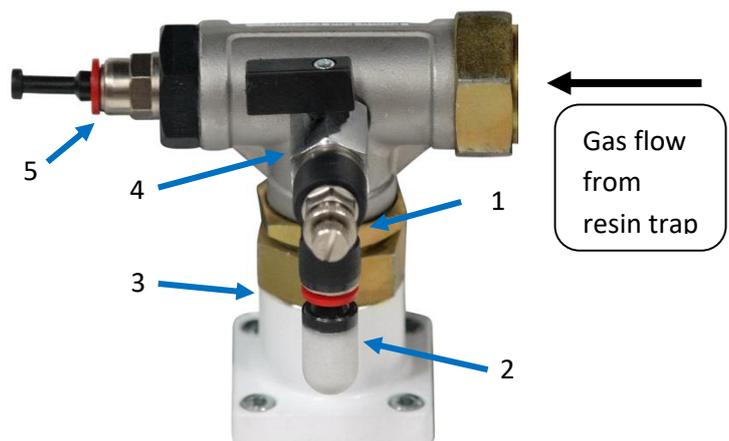
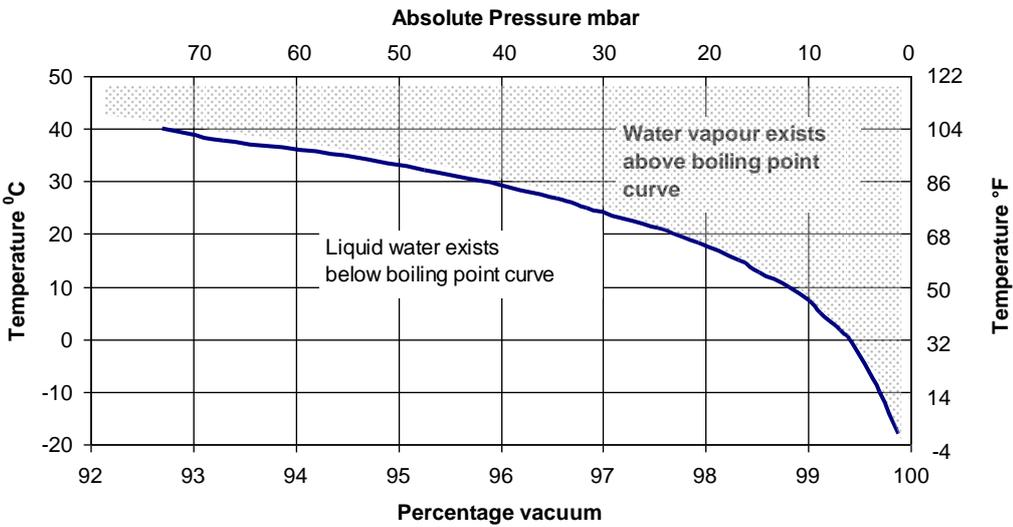

Figure 1
Figure 2, vapour pressure curve for water
The EVA valve is a small, manually operated valve assembly fitted to a T above the vacuum connection to a VSV-20 vacuum pump. The assembly is illustrated in Figure 1 and its components are:
In all cases where the laminate (or whatever is being evacuated) is at an elevated temperature, recognise that vapour generation will be increased and evacuation will slow down. In severe cases, the evolution of vapour may be more than the vacuum pump can dispose of without oil contamination. If the pump oil should begin to discolour quickly, adjust the EVA valve so that the pump's end pressure (with the resin trap valve closed) is raised to approximately the expected vapour pressure at the laminate (please refer to the water vapour pressure chart in Figure 2, or to the solvent vapour pressure chart, if the resin supplier can provide this information). Reopen the resin trap valve and pump until the actual pressure drops to the end pressure you set the EVA valve to. You can now reduce the EVA valve pressure setting and continue pumping down to the desired end pressure. With large vapour volumes, this process may be too slow. If this is the case, the alternatives are to use a larger pump with an appropriate vapour pumping capacity, or to use a refrigerated inlet trap before the vacuum pump.
Step A1 (optional) - You may wish to pre-set the EVA valve (Item 1 in Fig. 1) to about 10 mbar absolute or to some pressure above the pump's lowest end pressure, to provide a curing pressure somewhat above the infusion pressure (to reduce the size of any residual voids – see remark about Boyle's Law at the bottom of Page 1). Determining the optimum curing pressure may take some experimentation (unless in the laminate specification). With flat laminates the curing pressure could be quite high – perhaps as high as the maximum opening setting for the EVA valve. For complex laminates, where too high a pressure inside the bag might cause a change of laminate shape or thickness, the absolute cure pressure should be low. If the pressure used in Step 2 is 1 mbar absolute, 10 mbar absolute should provide a worthwhile void reduction and be safe in all cases.
Step A2 - Once the curing pressure (if any) has been set in Step 1, evacuate the laminate and leak test the bag and tubing with the On/off valve (Item 4 in Fig. 1) on the EVA valve assembly CLOSED. Note that the vaporisation of moisture in the laminate can stall the pumping down of the bag and a leak may appear to have developed. Before rushing to check for vacuum leaks, compare the absolute pressure that pumping has stalled at with the vapour pressure of water at the laminate temperature. Refer to Fig. 2. If about the same, be patient and allow the pump to remove the vapour.
Step B7 - Following infusion and when the laminate is fully wetted out, you may want to further OPEN the EVA needle valve (Item 1 in Fig. 1) to raise the pressure inside the bag to reduce the void size. Refer to comment in Step A1.
2. Remove the plug and connect your absolute pressure gauge to the gauge port on the EVA valve assembly (Item 5 on Fig. 1). This port will O-ring seal to a male gauge stem or gauge tube of 8 mm (5/16”) diameter. This is a common stem size for compressed air fittings.
3. Close the On/off valve on the EVA valve assembly. (Item 4 on Fig. 1)